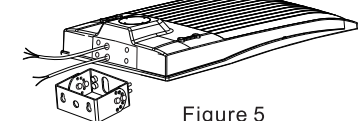

Figure 5
3. YOKE MOUNTING (YM)
- Step 1: Remove the bracket mounting screws on the fixture and run the wires through the bracket. (Figure 5)